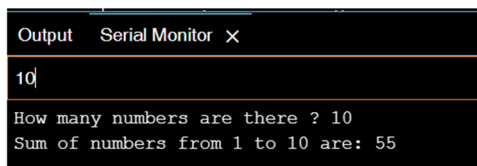

Figure 2.9: Displaying the sum of numbers from 1 to 10.
- You should see the text **How many numbers are there ?** displayed at the Serial Monitor window. For example, enter 10 where it says: **Message (Enter to send message to 'Arduino UNO R4' Minima...)** and press the **Enter** key on your PC. You should see 55 displayed which is the sum of integer numbers from 1 to 10 as shown in Figure 2.9.